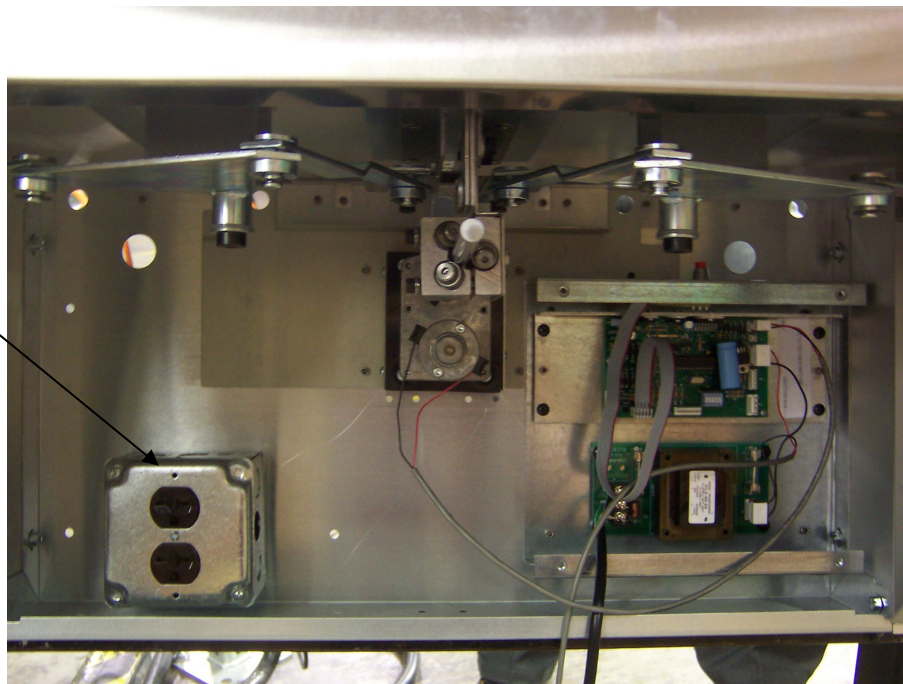

Figure 11
2. Wire the AC source line to the receptacle located underneath the window countertop. (See Figure 11)